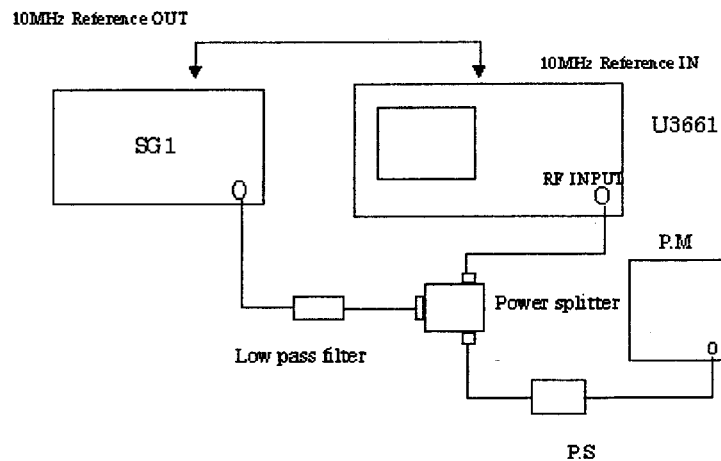

Figure 3-14 Setup of a Second Harmonics Distortion Test
3. Connect equipment as shown in Figure 3-14.